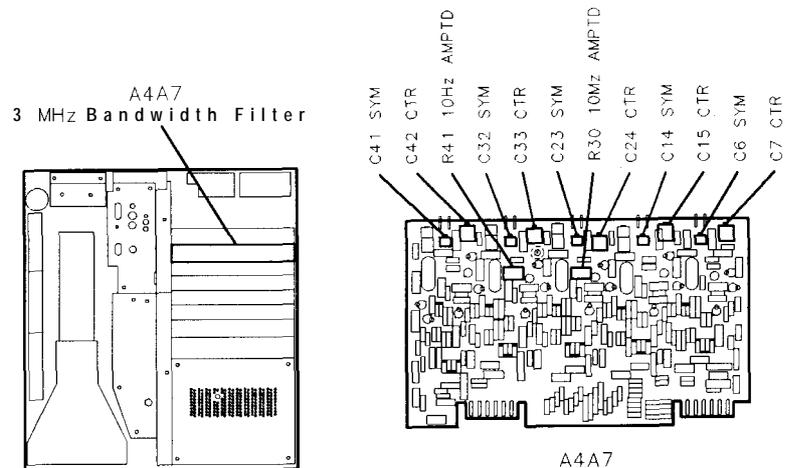

Figure 3-38.
8. Adjust A4A7C7 CTR for minimum amplitude signal peak. Adjust A4A7C6 SYM for best symmetry of signal. Repeat adjustments to ensure that the signal is nulled and adjusted for best symmetry. See Figure 3-38 for location of adjustments.
10. Adjust A4A7C15 CTR for minimum amplitude of signal peak. Adjust A4A7C14 SYM for best symmetry. Repeat adjustments to ensure that the signal is **nulled** and adjusted for best symmetry. See Figure 3-38 for location of adjustments.
12. Adjust A4A7C24 CTR for minimum amplitude of signal peak. Adjust A4A7C23 SYM for best symmetry of signal. Repeat adjustments to ensure that signal is **nulled** and adjusted for best symmetry. See Figure 3-38 for location of adjustments.
14. Adjust A4A7C33 CTR for minimum amplitude of signal peak. Adjust A4A7C32 SYM for best symmetry of signal. Repeat adjustments to ensure that signal is **nulled** and adjusted for best symmetry. See Figure 3-38 for location of adjustments.
16. Adjust A4A7C42 CTR for minimum amplitude of signal peak. Adjust A4A7C41 SYM for best symmetry of signal. Repeat adjustments to ensure that the signal is **nulled** and adjusted for best symmetry. See Figure 3-38 for location of adjustments.
42. Adjust A4A7R30 10 Hz AMPTD and A4A7R41 10 Hz AMPTD equal amounts to set the signal level the same as the reference level set in step 39. See Figure 3-38 for location of 10 Hz AMPTD adjusts.